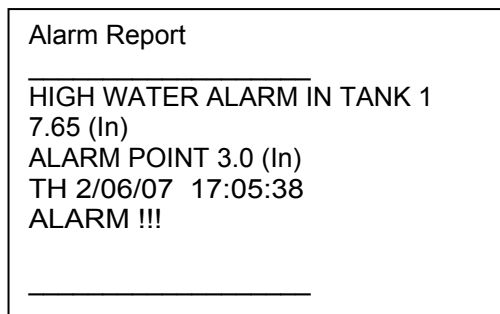
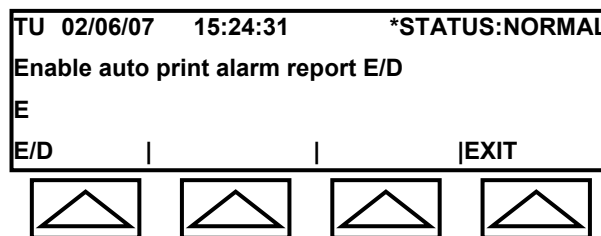

Figure 3-16d: Alarm Report
Fig. 3-19: Alarm Print Submenu
- ◆ PRINT – provides a printout of the Alarm Report (see Figure 3-16d).
The ALRM PRNT Submenu is entered from Screen #3 of the MAIN Menu by selecting ALRM PRNT (see Figure 3-19). It allows you to enable or disable the printer to provide an automatic printout (see Figure 3-16d) upon the occurrence of an alarm. A printout will also be automatically provided when the alarm is acknowledged.